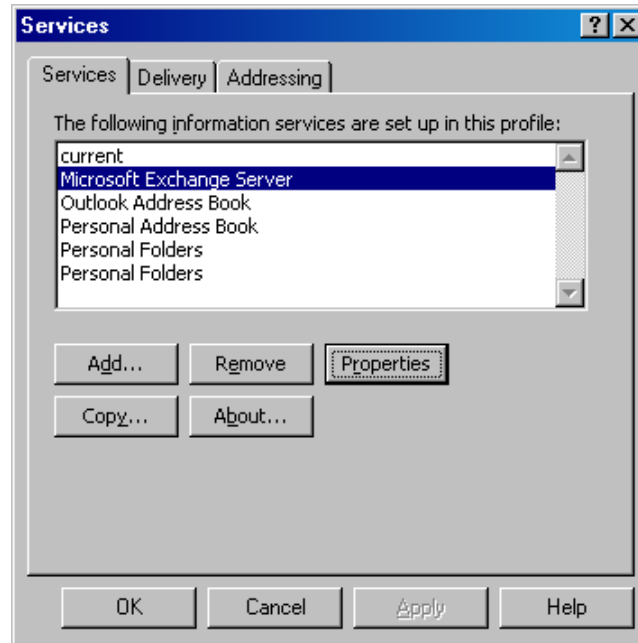
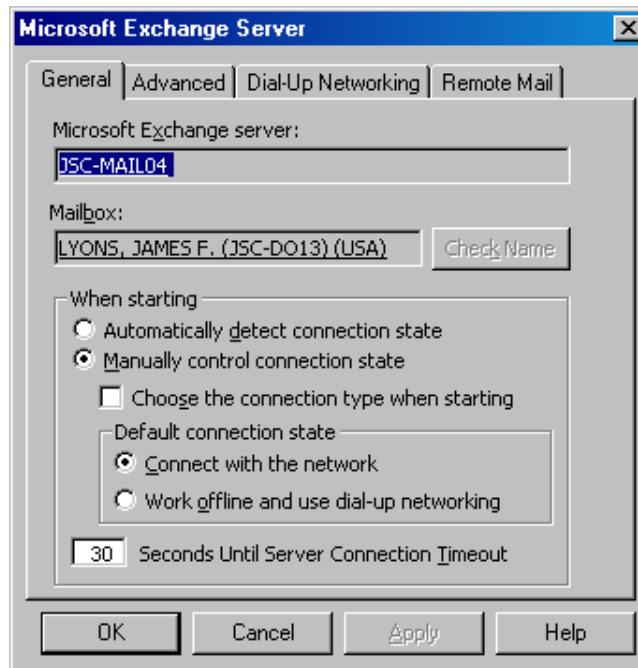

Figure 5-4. Services window
Figure 5-5. Microsoft Exchange Server properties
2. The window shown in Figure 5-4 comes up.
3. Move the blue highlight bar to **Microsoft Exchange Server** (as shown in Figure 5-4). Then click on the **Properties** button, and the window shown in Figure 5-5 comes up.